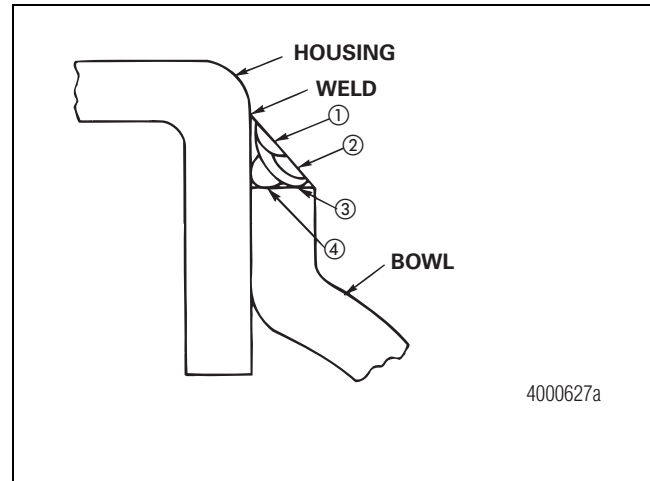

Figure 3.5
- Gouge approximately four grooves into the housing-to-cover weld crack area the full length of the crack plus an additional one-inch (25.4 mm) past each end or side of the crack. The grooves must not be more than 0.25-inch (6.4 mm) deep. Figure 3.5.